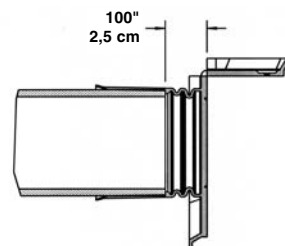

Figure 2 *Figura 2* Illustration 2
2. Place sleeves over both ends of conduit, taking caution not to insert past internal stop ring, as shown in Figure 2. Conduit should not extend into the bellows section as this will prevent the sleeve from flexing. Conduit sleeves can be used in vertical forms and in forms up to 30° angle per side.